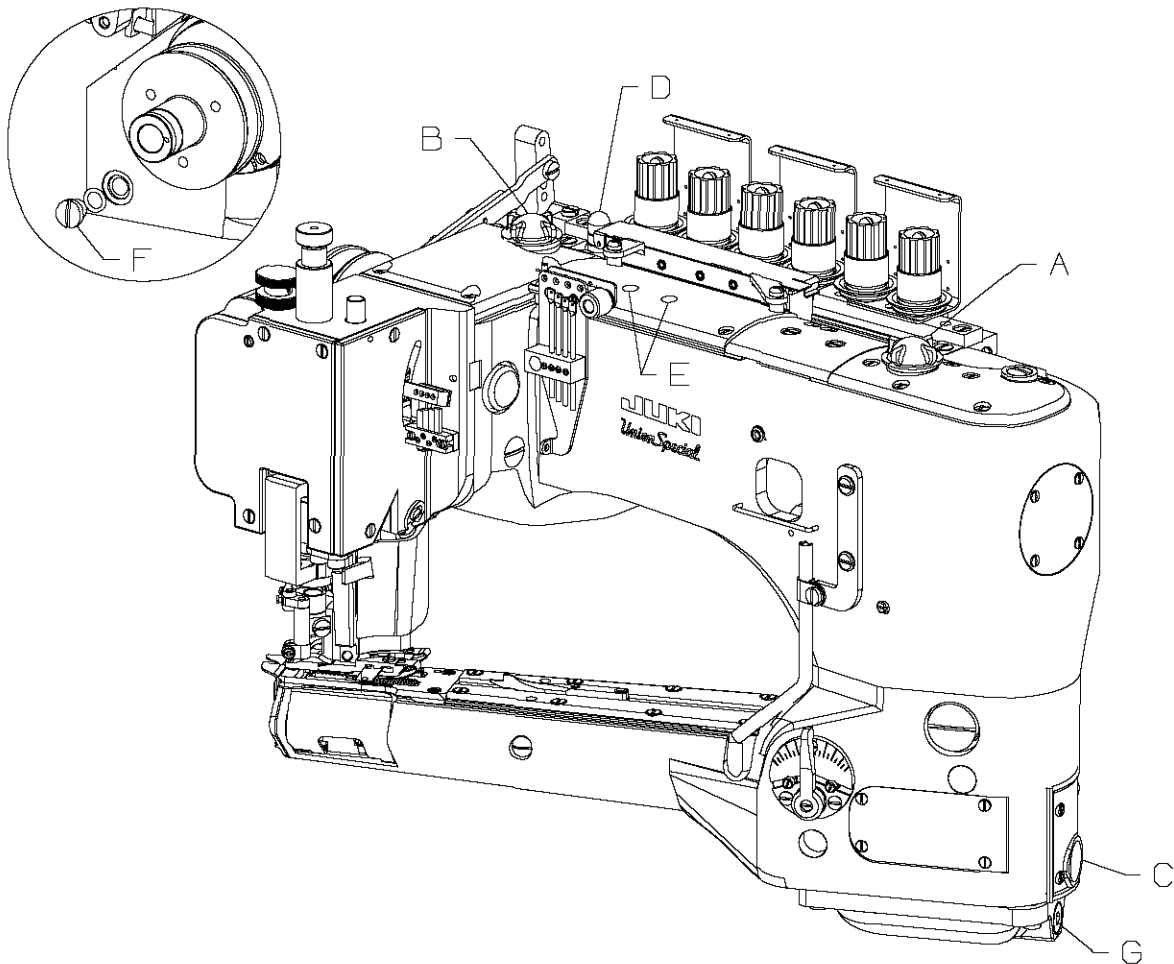

FIG. 1
Referring to Fig. 1, fill the machine at (A) and (B). Oil capacity of class 36200 is 2.5 ounces in the bottom reservoir and 2.5 ounces in the top reservoir. Use a straight mineral oil, Saybolt viscosity of 90 to 125 seconds at 100° Fahrenheit (Union Special Spec 175 part no. 28604R). The oil level is checked at gauges (C) and (D). Maintain oil level between the red lines of these gauges.
Remove screw 22733B (F, Fig. 1 inset) to drain oil from the top reservoir. To drain oil from bottom reservoir remove screw 999-196 (G).